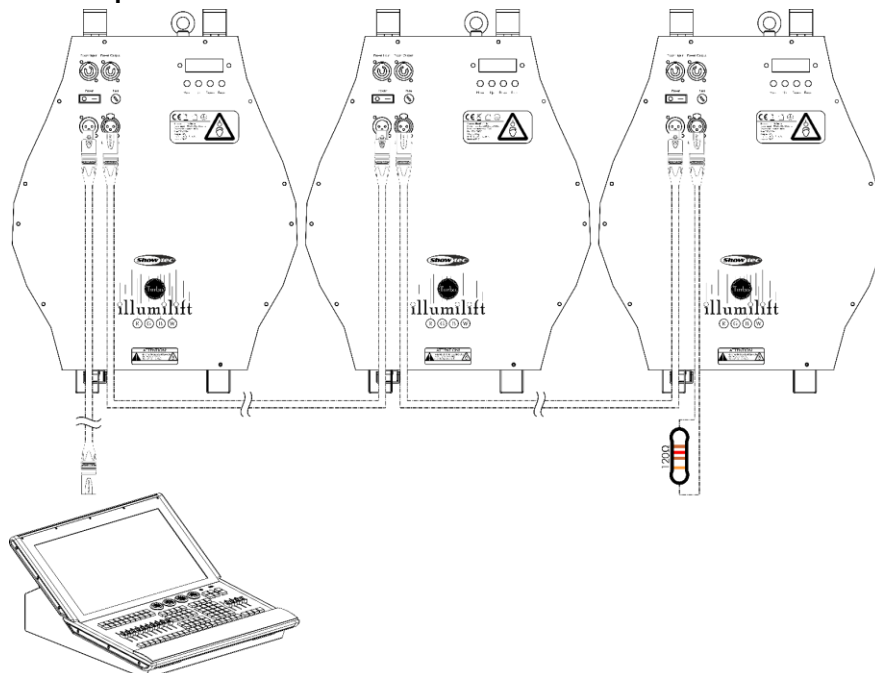

Fig. 05
- 02) Link the units as shown in Fig. 05. Connect the first unit's DMX "out" socket with the second unit's "in" socket, using a DMX signal cable. Repeat this process to link the second, third and fourth units.